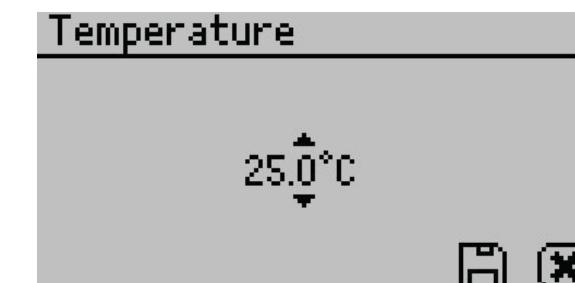

Figure 30 Temperature option
- **Temperature.** Select to set the AQUALAB 4 to the desired temperature using **UP** and **DOWN**. When finished, select **SAVE** (Figure 30). The AQUALAB 4TE models may be set between 15 and 50 °C in 0.1 °C intervals. The default temperature is 25 °C.